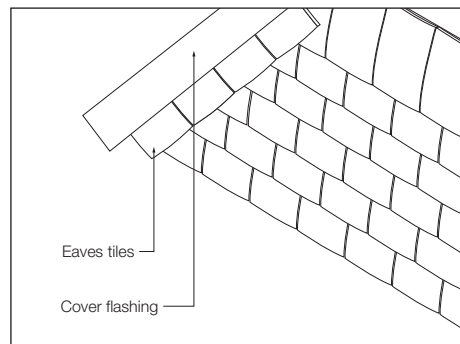

Fig. 24 – Cut tile to meet rake of verge
- 2 Cut vertical tiles to meet raking batten using tile-and-a-half tiles at end of each course (Fig. 24).